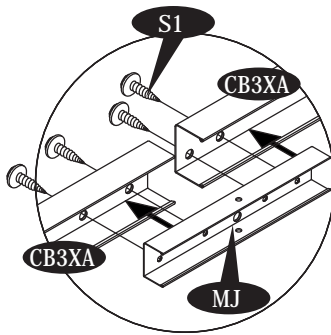

Fig.1
10. Assemble the center bands (CB3XA) with middle joining support (MJ) with (S1) Screws. See fig.1. Assemble (CB3XA) & (CB3A) together with (S1) screws. See fig.2.